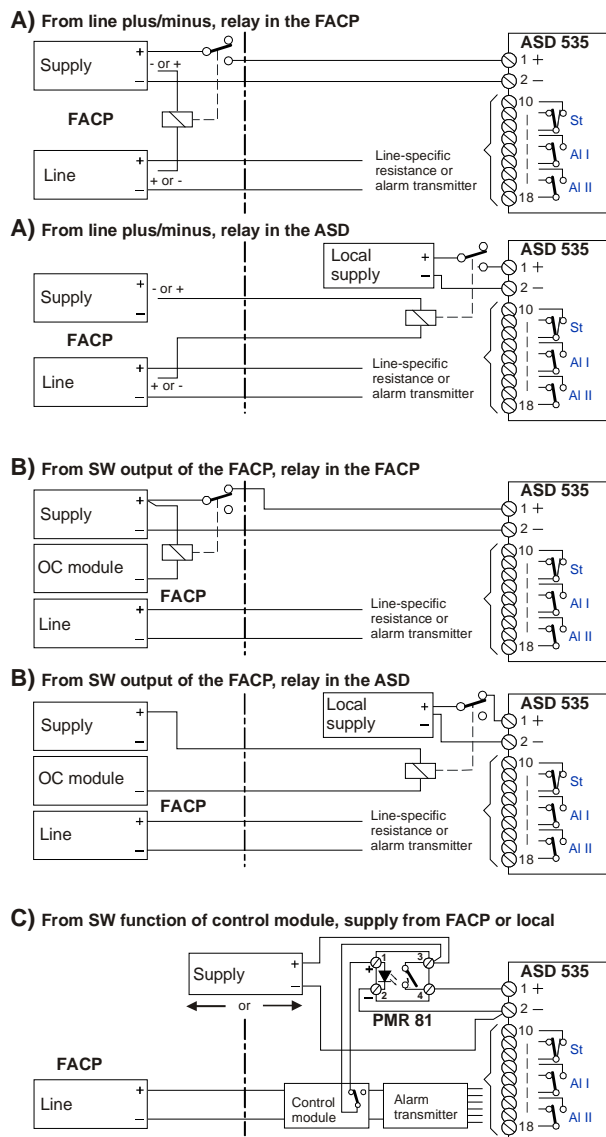

Fig. 36 Control via supply with relay
The auxiliary relay can be actuated in the following ways (see Fig. 36):
- The EMC protective elements at the input of the ASD electronics cause a brief current peak (5 A / 1 ms). When using auxiliary relays with a max. contact load of 1 A, this may lead to the relay contact sticking. For this reason auxiliary relays with a contact load of over **1 A** should **always** be used, e.g. PMR 81 semiconductor relay (see Fig. 36 C).